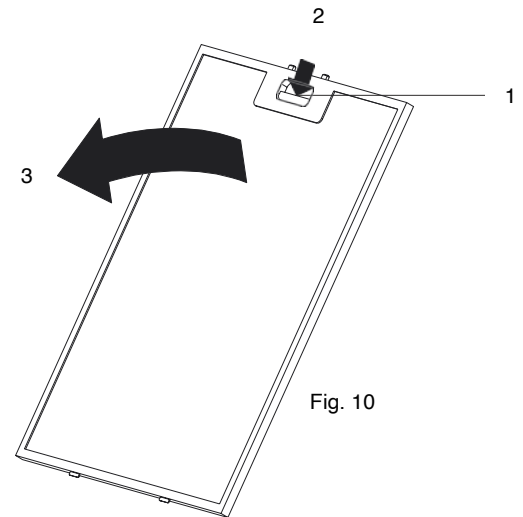

Fig. 10
To remove the aluminium grease filter first locate the opener tab (1) and press it gently sideways against its spring in the direction shown (2). Then pull the filter away from the hood gently in the direction of the arrow as shown (3) (Fig. 10).